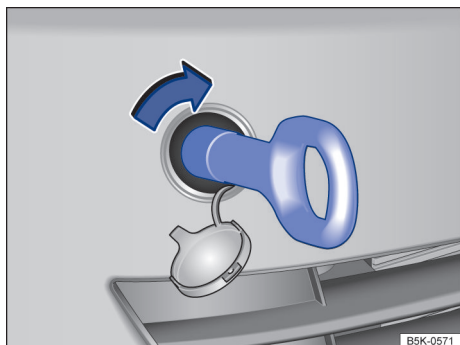

Fig. 165 In the right front bumper: Installing the towing eye.
There is a threaded hole for the towing eye in the right front bumper behind a cover → fig. 165.
- Screw the towing eye **clockwise** into the threaded hole as far as it will go (arrow) → fig. 165, → ①. Use the lug wrench to turn and tighten the towing eye.
① NOTICE